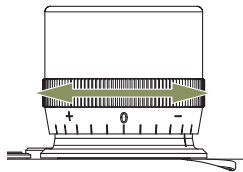

Fig. 10
3. Now turn the diopter adjustment on the right lens until you can see an entirely sharp and clear image, see Fig. 10.